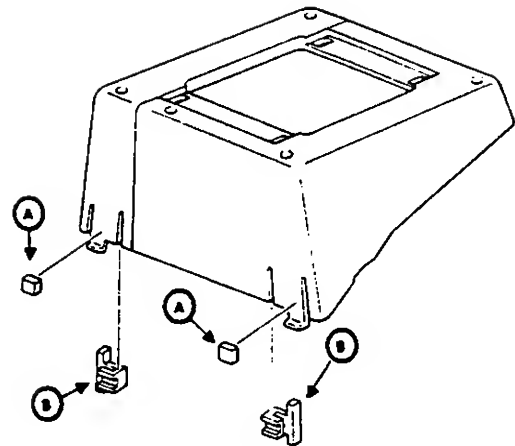

Figure 260-7
2. Remove the backing from the Rubber Thumb Guards (A) to expose the pressure sensitive tape; install two (2) Rubber Thumb Guards as shown See Figure 260-7).
3. Install Plastic Mount Supports (B) into slots.